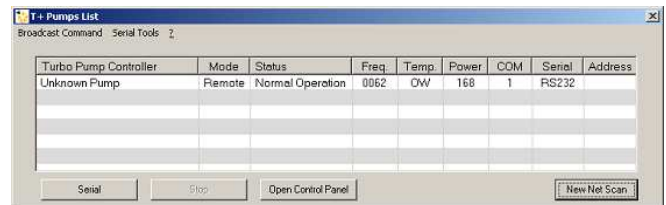

Figure 6 T+ Pumps List
4. Start the T-Plus software and Figure 6 appears.